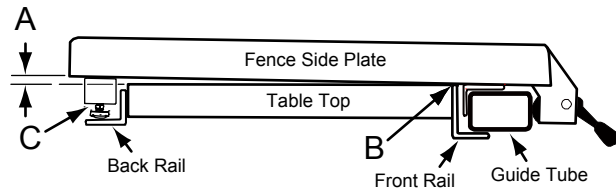

Figure 14
2. View the fence from the left side of the saw (Figure 14). Look for the space *between the table and the fence bottom* to be equal along the entire length of the fence (A, B, Fig. 14).
When the space at points A and B (Fig. 14) are the same:
5. Extend the *foot* (C, Fig. 14) by rotating it until it just comes in contact with the *back rail*.